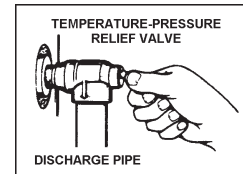

FIGURE 23.
When checking the temperature-pressure relief valve operation, make sure that (1) no one is in front of or around the outlet of the temperature-pressure relief valve discharge line, and (2) that the water discharge will not cause any property damage, as the water may be extremely hot, see Figure 23.